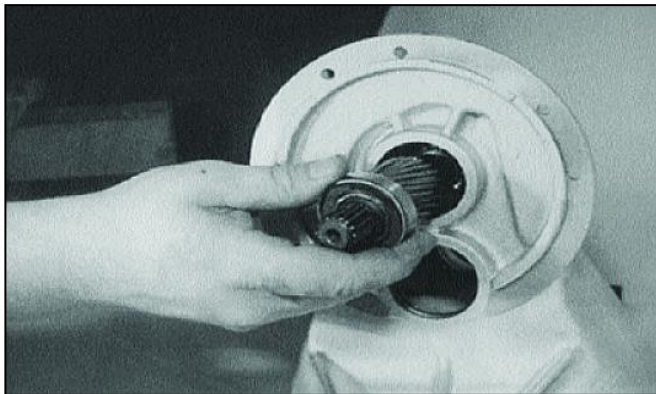

Figure 7-14
17. See Figure 7-14. Pull input shaft assembly (9) from housing. The input shaft assembly should slide out easily. If resistance is encountered, a slide hammer may be required.